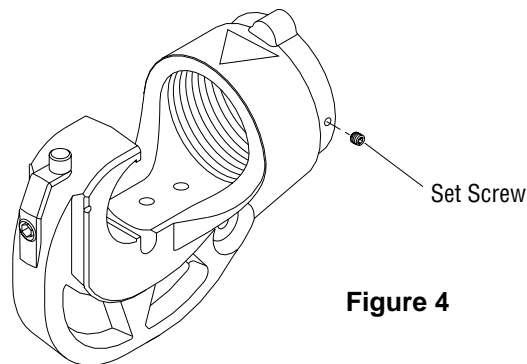

Figure 4
1. Loosen the set screw on the side of the crimping head. Refer to Figure 4.